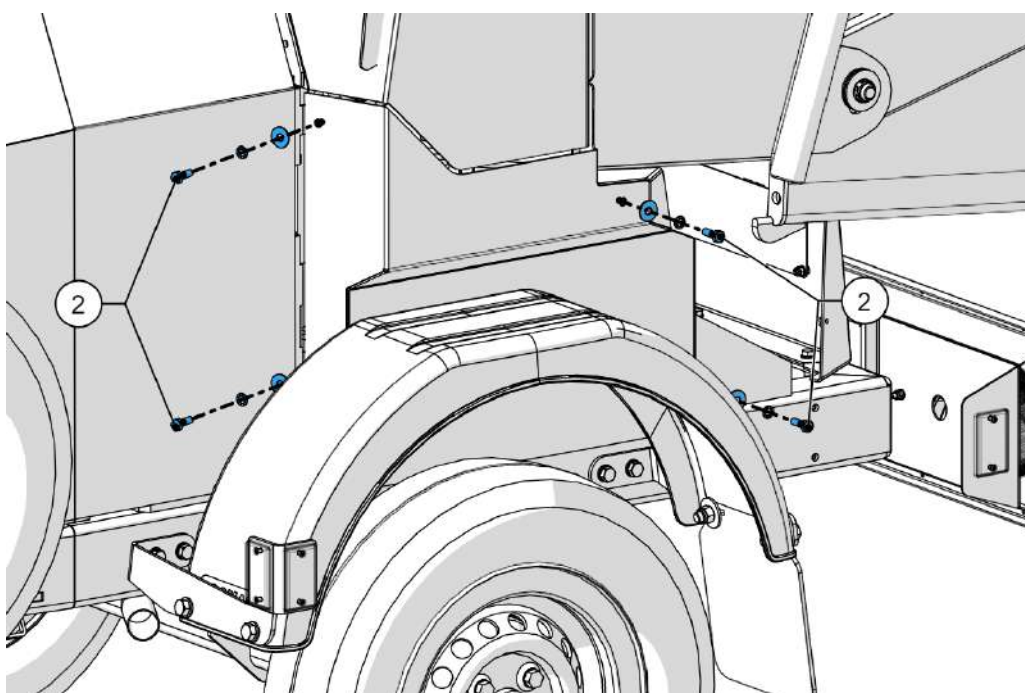

Figure 51 - Remove bolts
3. Remove the bolts securing the panel (2, Figure 51).